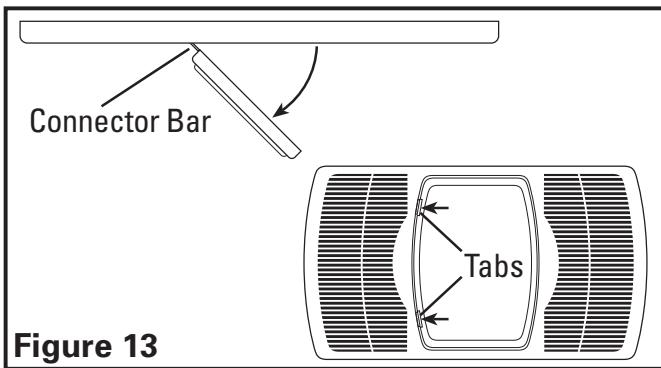

Figure 13
7. Close the light lens and secure in place by swinging back into position and snapping the tabs in place (**Figure 13**).